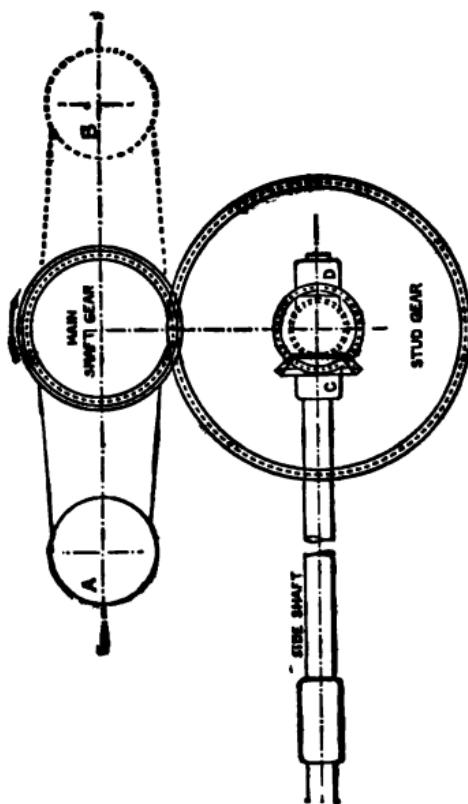

FIG. 44. SIDE SHAFT AND GEAR, PUTNAM ENGINE.
A. The valves are operated by a side-shaft placed parallel with the axis of the cylinder, and extending beneath the valve-chests and operated by the main shaft through suitable gearings, as shown in Fig. 44. The steam chests are placed one at each end of the cylinder. On this shaft are placed four cams—one for each valve—shaped as shown in Fig. 46. The cams operate, by raising the free ends, cam-levers, which in turn actuate the valves. The two